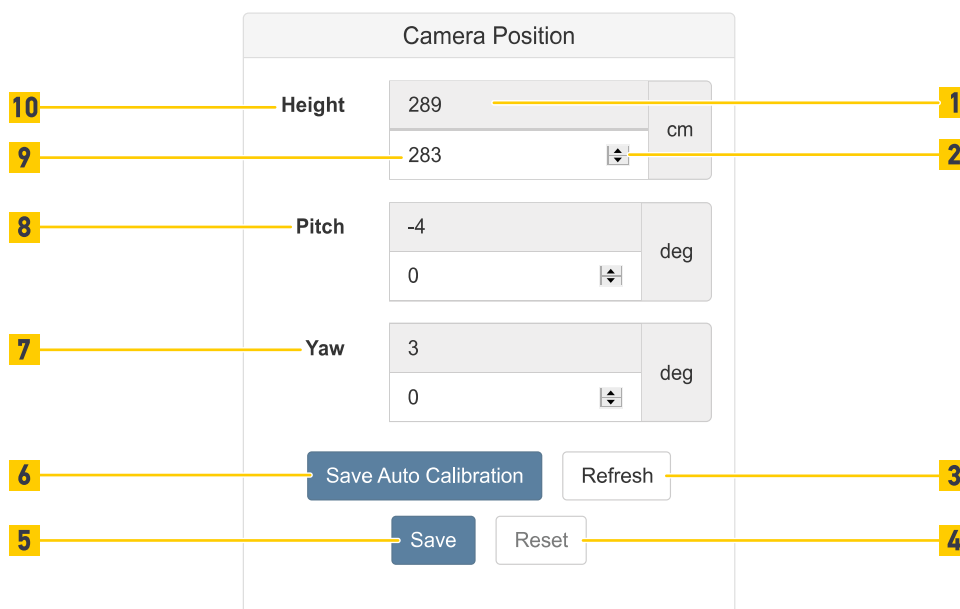

Fig. 81: Camera position
If measurement is not possible - e.g. a consistently level floor area is not big enough - the device presents a 'not available' hint (Fig. 81 /1). In this case use a separate measuring device and set up the values manually.
- To perform a new measurement click the Refresh button (Fig. 81 /3).
- To apply the measured values click the Save Auto Calibration button (Fig. 81 /6).
- Set up the values manually for the pitch (Fig. 81 /8) and yaw (Fig. 81 /7) angle or the height (Fig. 81 /10) by inputting a value directly into the input field (Fig. 81 /9) or using the spin control (Fig. 81 /2).
- To go back to the last saved settings click the Reset button (Fig. 81 /4).
- To save all the settings in the device click the Save button (Fig. 81 /5).